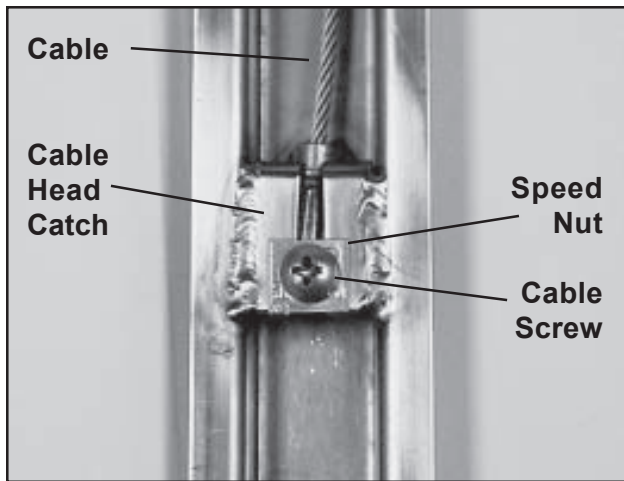

Figure 30. Speed Nut and Cable Screw
13. Mount a speed nut to the cable head catch and insert a 1/2 in. long, Phillips head, sheet-metal screw (Figure 30).
15. Mount a speed nut to the cable head catch and insert a 1/2 in. long, Phillips head, sheet-metal screw (Figure 30).